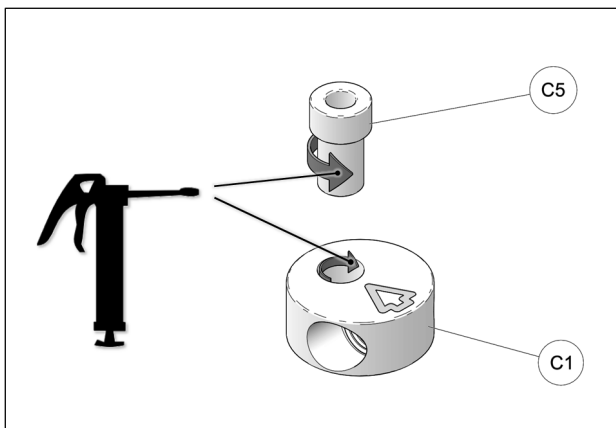

Fig. 22
14. Apply grease evenly all around step spacer bushing (**C5**) and in hole of aluminum disk (**C1**) when assembling these parts together. See Fig. 22